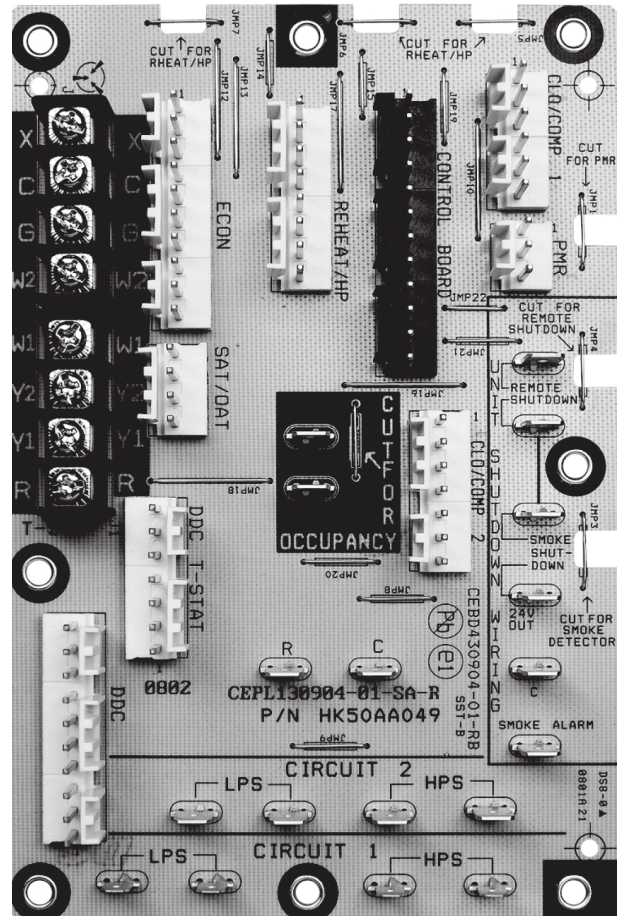

Fig. 18 — Central Terminal Board
2. The controller must be in occupied mode to energize the power exhaust fans. To set the controller to occupied mode, check the “CUT FOR OCCUPANCY” jumper on the central terminal board. (See Fig. 18).
3. Place jumper wire on thermostat inputs across terminals R and G to activate a call for indoor fan to energize. (See Fig. 18.)